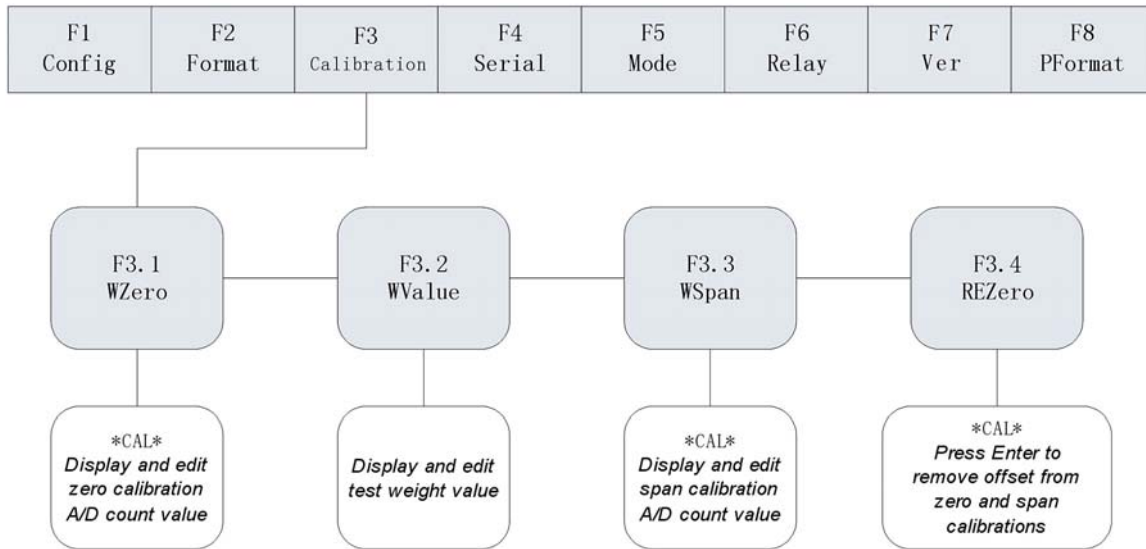

Fig. 4-1 F3(Calibration) Menu
- (1) Set indicator to the Configuration mode (display shows “F 1”) and remove all weight from the scale platform. If the test weights require hooks or chains, place the hooks or chains on the scale for zero calibration.
- (2) Press \blacktriangleright until the display shows “F 3” (see Fig. 4-1). Press \blacktriangledown to go to zero calibration mode. Display shows “F 3” (see Fig. 4-1).
- (3) When display shows “F 3.1”, there are 2 options :